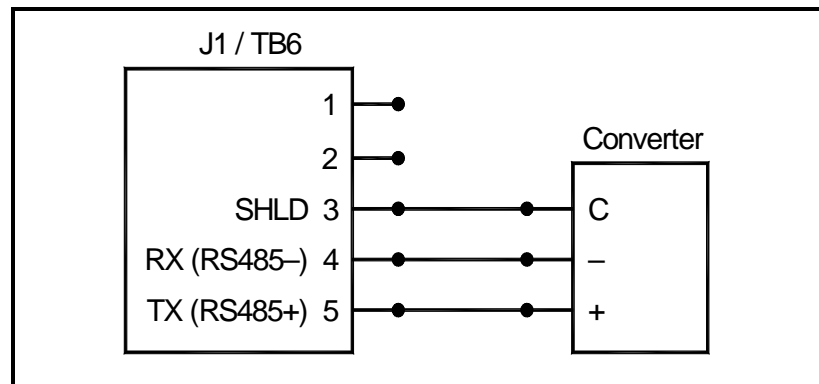

Figure 1-14: Typical RS485 Connections
3. Feed one end of the cable through the conduit hole, wire it to terminal block J1 and secure the cable clamp. Connect the other end of the cable to the converter, as shown in Figure 1-14 below.